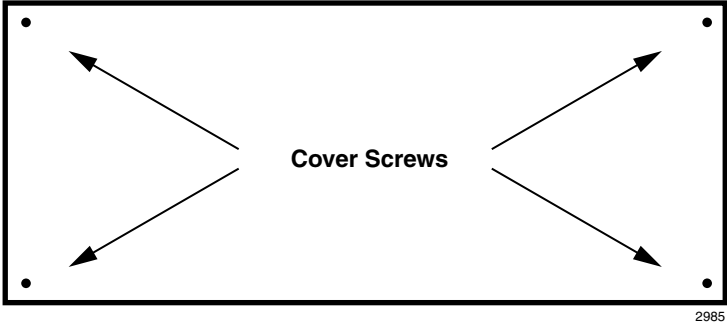

Figure 15 Location of Screws on the BSIA Cover
1. Remove the screws securing the cover of the BSIA (see Figure 15) and lift the cover off the BSIA.